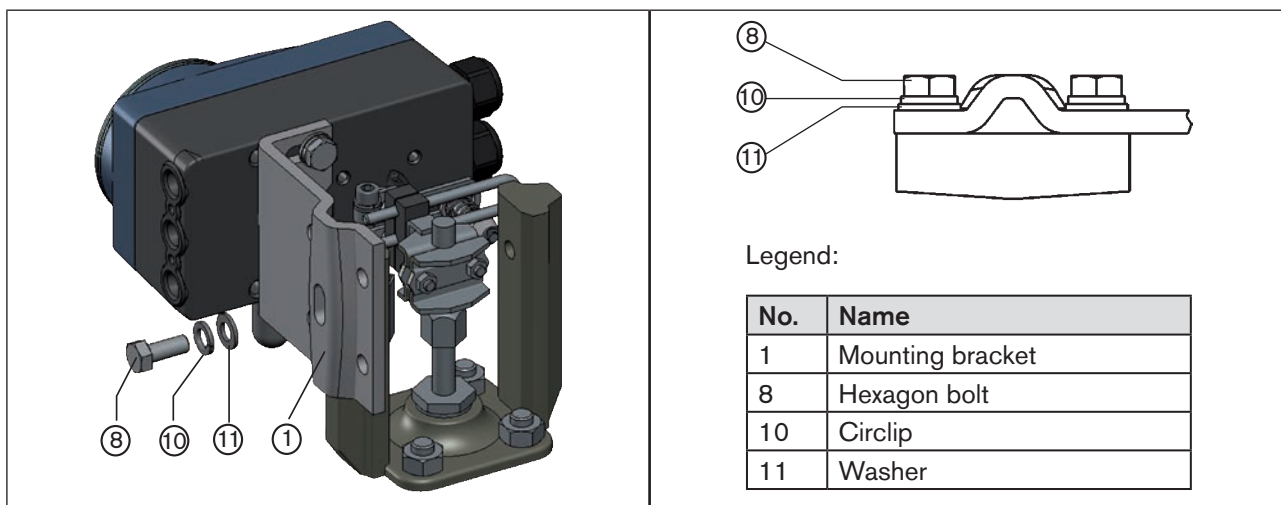

Figure 17: Attach Type 8792/8793 with mounting bracket; for actuators with cast frame
→ Attach mounting bracket to the cast frame with one or more hexagon bolts ⑧, washers ⑪ and circlips ⑩ (see "Figure 17").